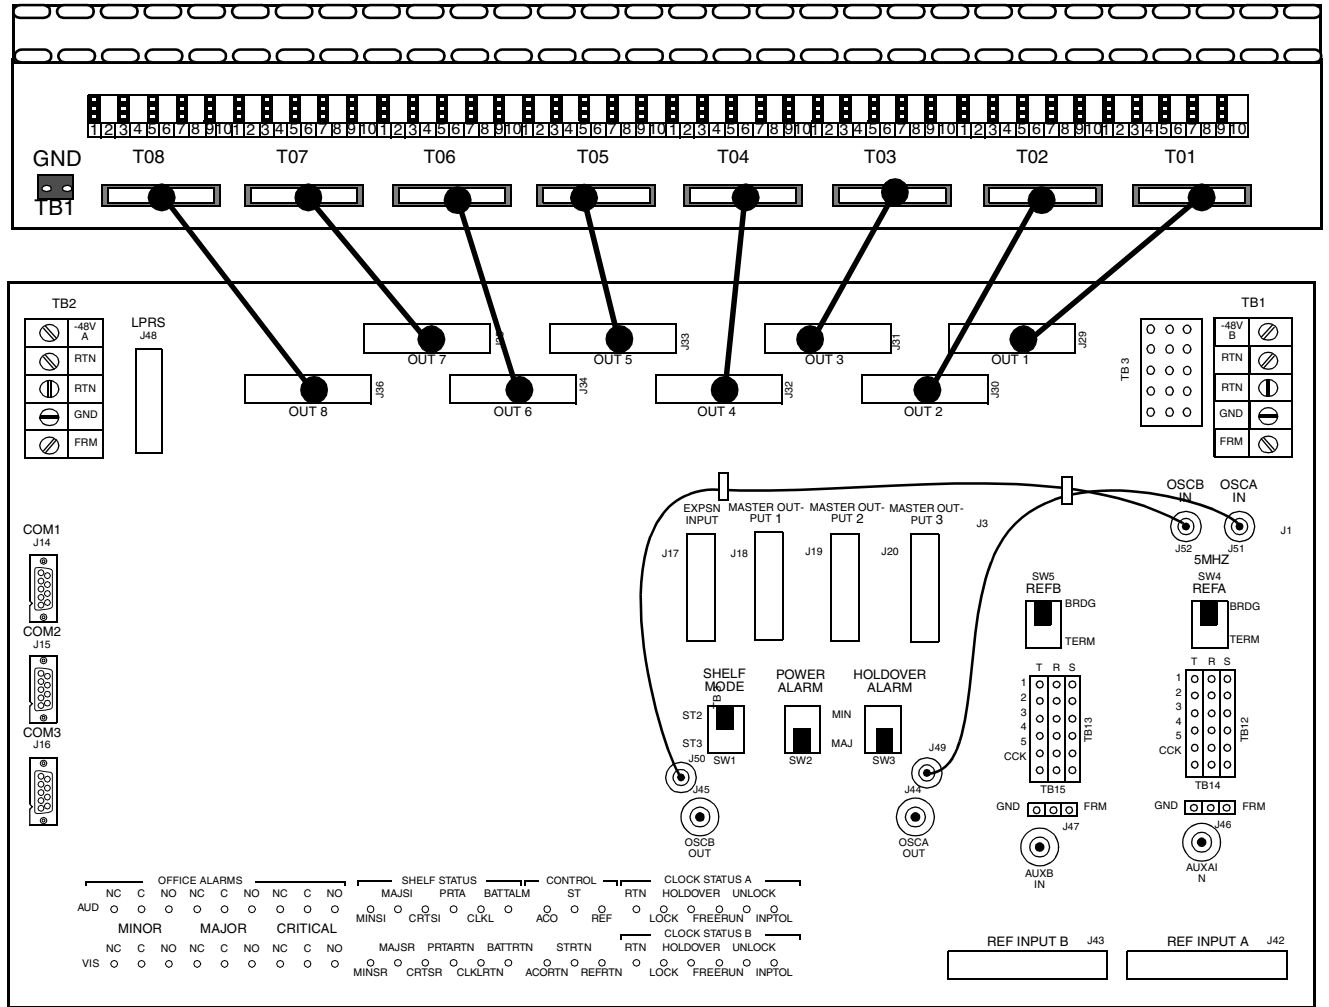

Figure 13. Shelf to Wire-wrap Interface Panel Connections
3.04 Use Table J and Figure 13 for connector information. For each shelf with a wire-wrap panel, connect the supplied cable between the 20-pin locking connectors (J29 through J36) on the shelf rear panel to the corresponding connectors on the wire-wrap panel (TO1 through TO8). Refer to Table J and Figure 13 for connections.